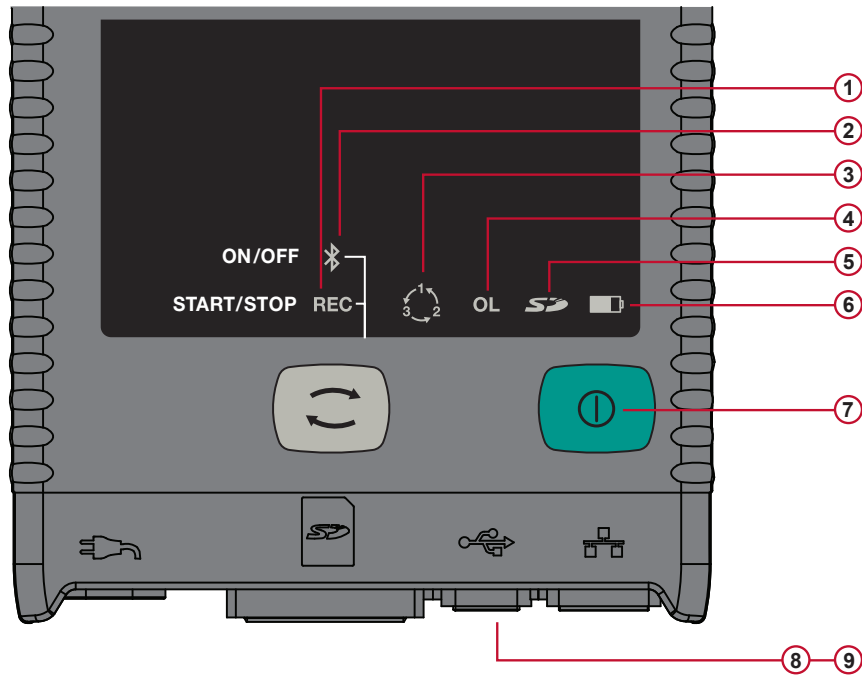

Figure 8
- ① Four voltage input terminals.
- ② Three current input terminals.
- ③ Rigid molded casing over-molded with thermo-adhesive rubber.
- ④ Digital LCD displaying measured, calculated and parameterizing quantities (see § 2.10).
- ⑤ Two (PEL 102) or Four (PEL 103) function buttons (see § 2.9).
- ⑥ Nine LEDs for status information (see § 2.11).
- ⑦ Anti-theft Kensington Security Slot (see § 2.8)
- ⑧ Connections for USB, Ethernet, SD memory card and terminal cover caps.
- ⑨ Standard (IEC C7 figure 8 terminal – non polarized) power connector for 110/250VAC power source.
The Yellow/Red LED (see #6 Figure 8) is used to indicate the status of the battery.
- The green REC LED (see #1 Figure 8) will light up for 3 seconds, followed by the lighting of the blue Bluetooth LED (see #2 Figure 8) for 3s - one after another. During the time these LEDs are lit, you will be able to control their respective function as described below.